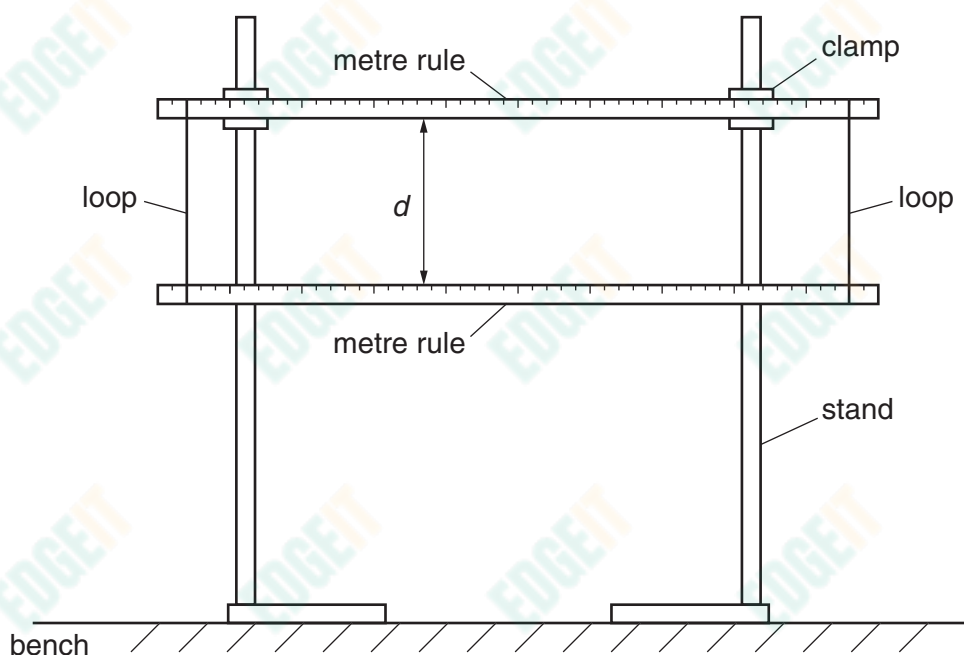

Fig. 2.3
- (c) (i) Use the stands to set up the two metre rules and the two loops of string as shown in Fig. 2.3.